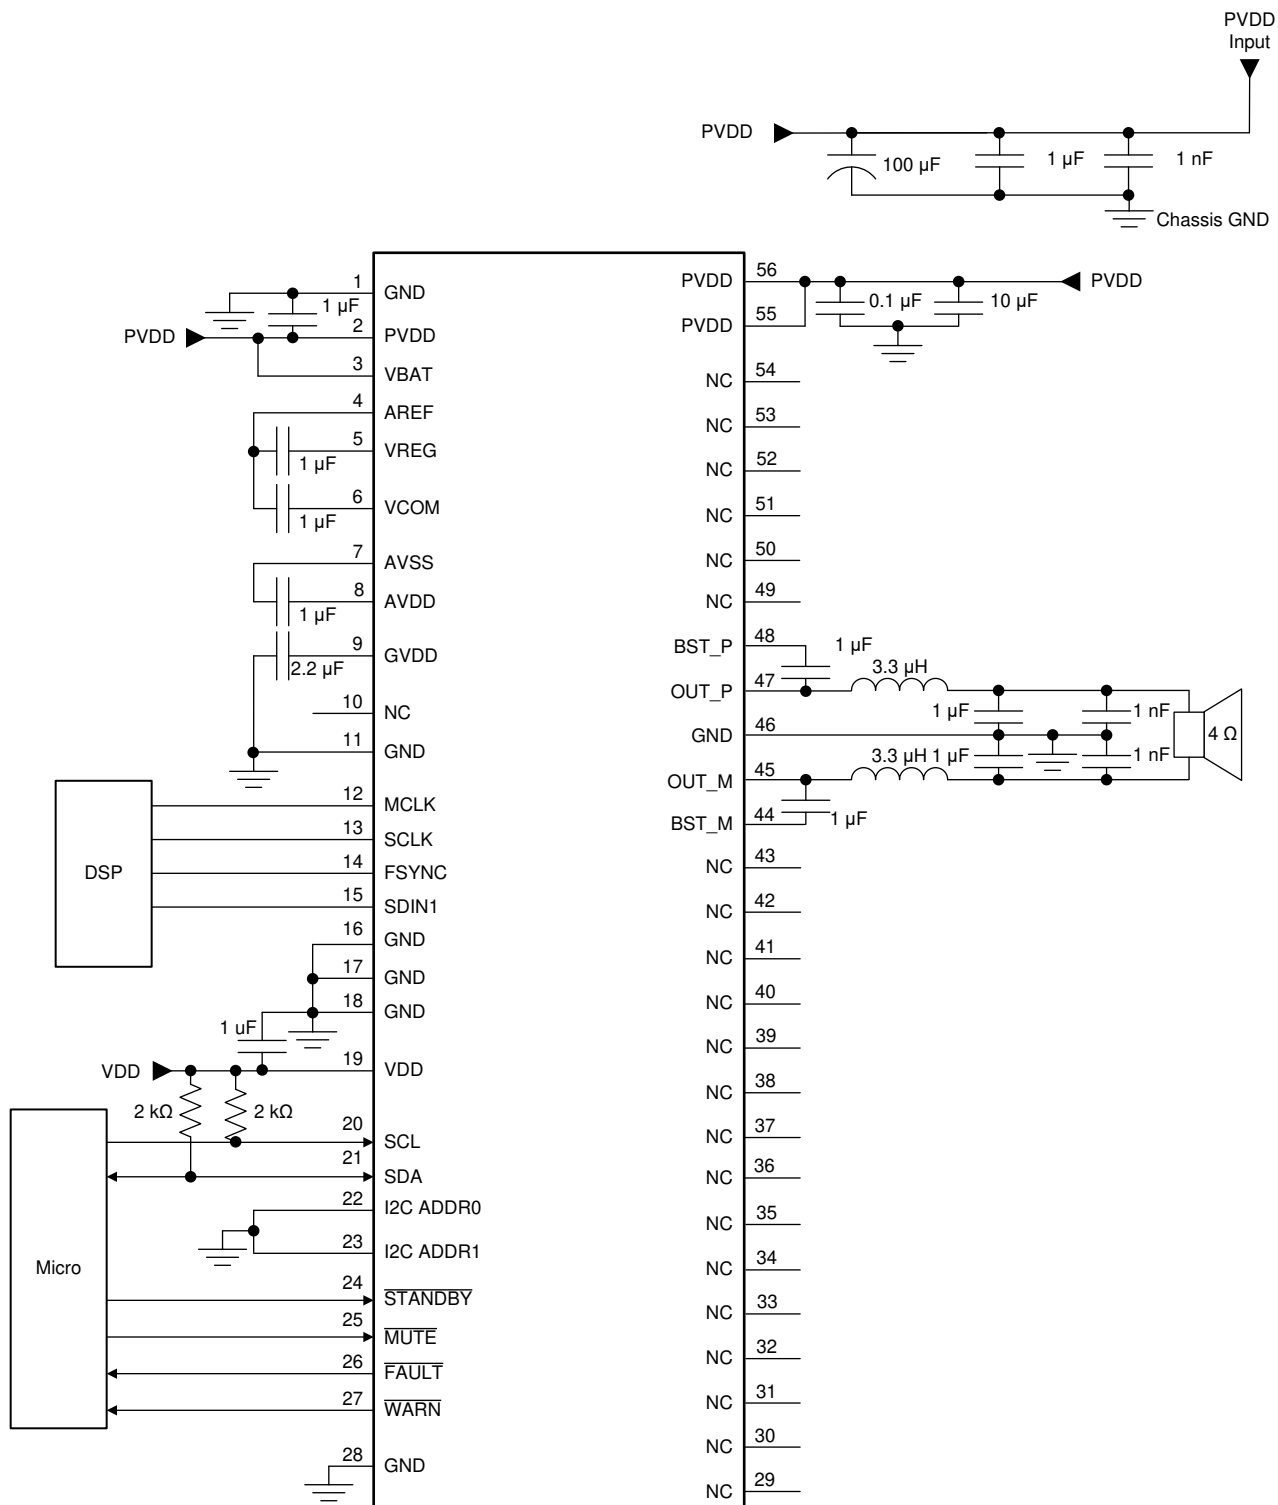

Figure 66. TAS6421-Q1 Typical Mono-Channel BTL Application Schematic
Figure 66 shows the schematic of a typical mono-channel solution in a typical use case.
- With the requirements, adjust the typical application schematic in Figure 66 for the input connections.